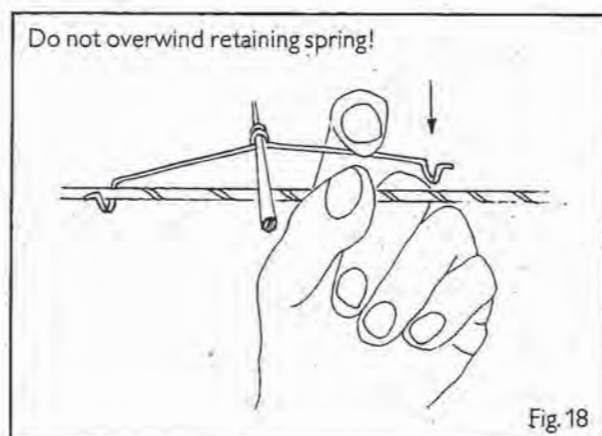

Fig. 18
2. Now attach the retaining springs around the cable so that the end of each of the wire hangers presses against the cable (Fig. 18). Provided that the system has been properly assembled, the lighting element is freely adjustable to any position you require.